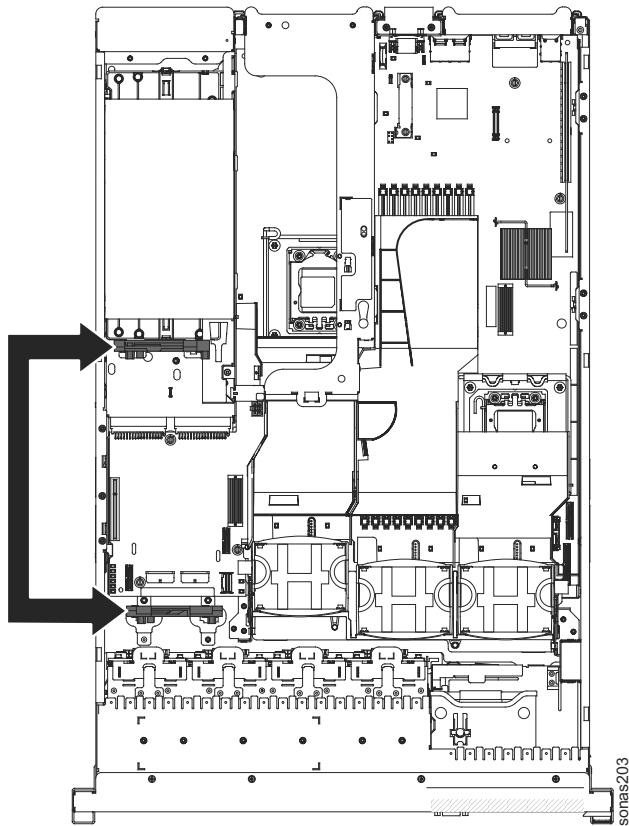

Figure 22. Controller retention brackets on 16-drive-capable server model
- a. If you are replacing a ServeRAID-BR10il v2 SAS/SATA controller with a ServeRAID-M5015/M5014 SAS/SATA controller, you must swap the controller retention brackets to fit the new SAS controller. See Figure 22 on page 121.